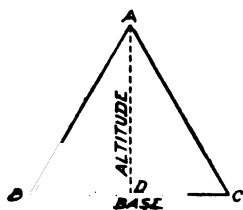
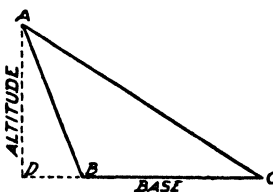

Fig. 24.
Fig. 25.
(b) The *altitude* of a triangle is the perpendicular drawn from the vertex to the base AD , Fig. 24. In some triangles, Fig. 25, it
79. Areas of Triangles. A triangle is a surface and as such has two dimensions, *base* and *altitude*. Under *denominate numbers* the fact was brought out that surfaces or areas were measured by square measure, and that the area of the surface was proportional to the product of its two dimensions. If the surface is a triangle it has been found that the *area is equal to one-half of the product of the base by the altitude*. For example, in Fig. 24 and Fig. 25, the area of each triangle is $\frac{1}{2} (BC \times AD)$. Other methods might be given but, by the above method, most cases which are met may be easily solved.